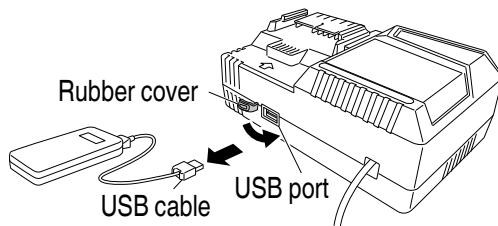

Fig. 24
- (3) When charging is completed
- Unplug the power cord from the electrical outlet. (Fig. 24)